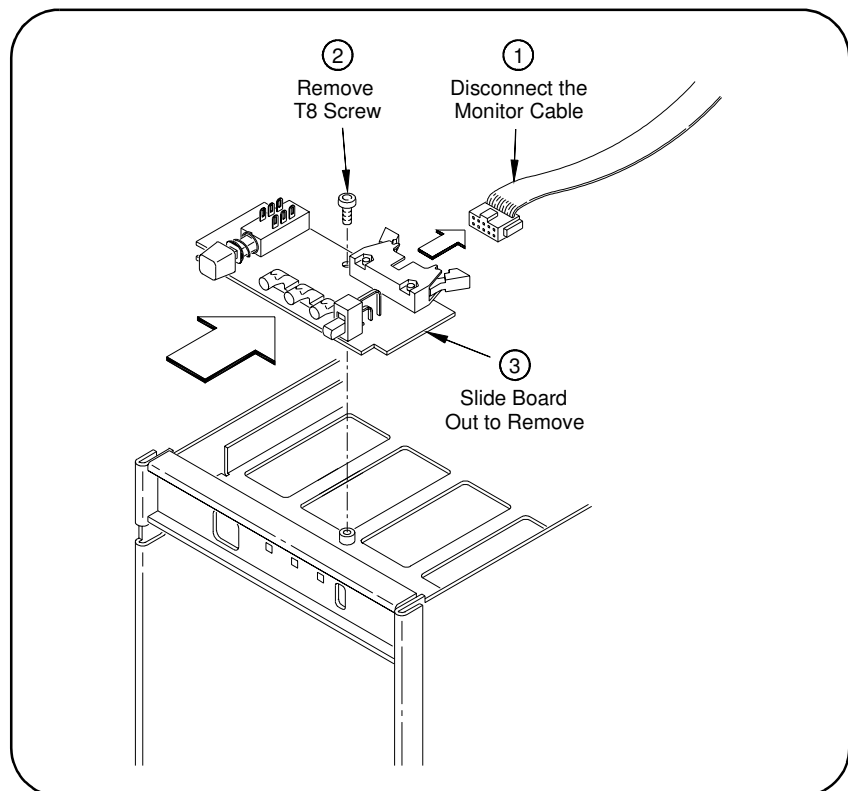

Figure 3-4. Removing the Monitor Board
- 5 Follow the steps in Figure 3-4 to disconnect the ribbon cable and to remove the Monitor Board.
- 6 Reverse the steps in Figure 3-4 to install a replacement Monitor Board and to re-connect the ribbon cable.